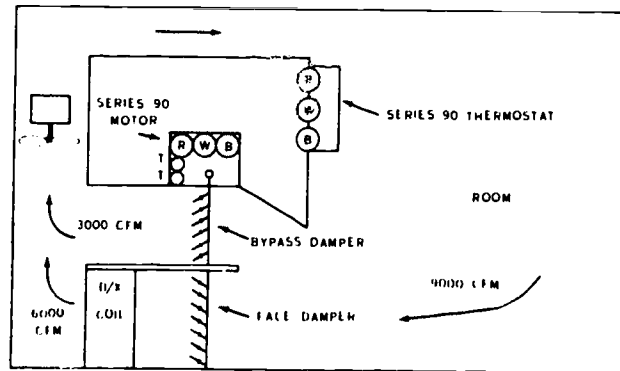

Figure 23. Face and Bypass Damper Temperature Control
It is often desirable to control the temperature of an equipment cooling space by controlling the amount of air that circulates across a direct expansion (DX) coil. Figure 23 is a diagram of this application.